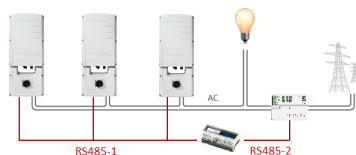

Figure 6: Multi-inverter connection with CCG and meter
- The meter is connected to one of the RS485 ports of a CCG. The CCG's second RS485 port can be used to create an RS485 bus for communication between the inverters. This option is illustrated in *Figure 6*.